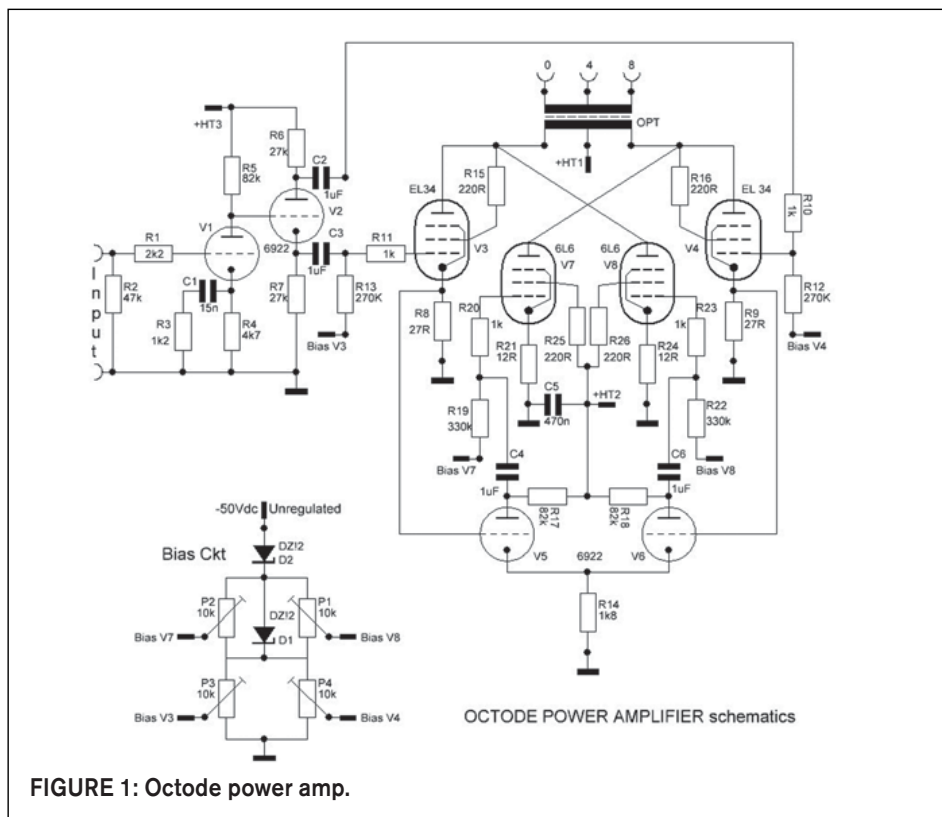

FIGURE 1: Octode power amp.
A. J. van Doorn's "Octode Amplifier" in the November issue contains an incorrect figure. The correct caption and figure are included here (Fig. 1).—Eds.